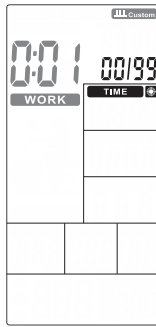

FIGURE 33
2. TIME keeps lighting up, WORK and 0:01 will flash, press UP/DOWN to set training time between 0:00 ~ 9:59 circularly (Figure 33). Press ENTER to confirm along with the buzzer beeps 1s and INTERVAL CUSTOM keeps lighting up.